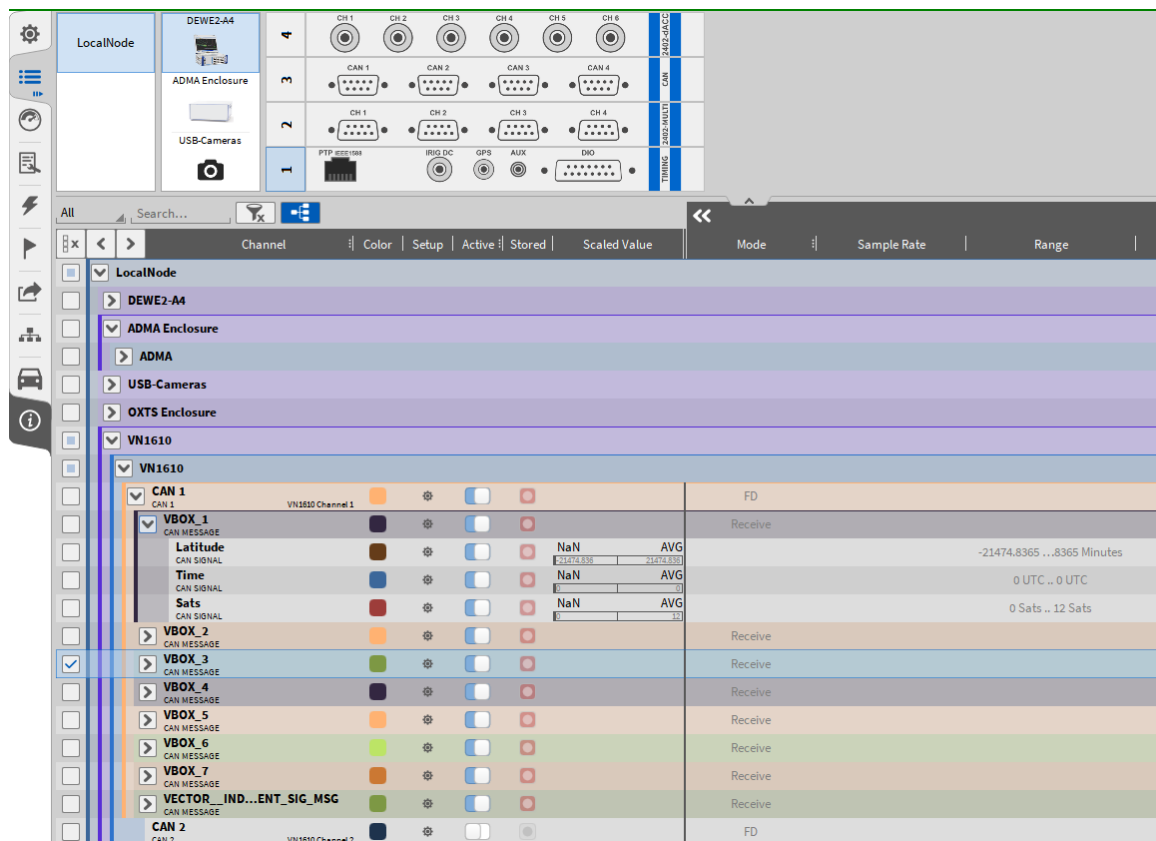

Fig. 4.57: CAN-FD channel list in OXYGEN
- After loading the channels from the dbc-file, an arrow positioned left to the Channel name will appear. A click on the Arrow will expand the CAN-FD channel list and show the individual CAN-FD messages including their channels (see Fig. 4.57).